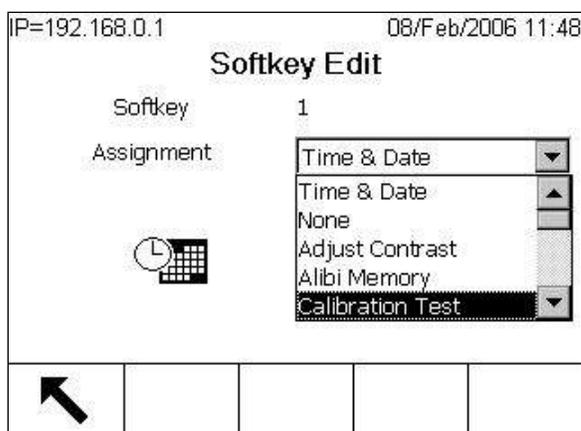

Figure 3-106: Softkey Edit Setup Screen
**Edit** Changes the softkey in the selected position to another softkey or to none, which leaves the softkey position blank. Editing a blank position does not move the position of following softkeys. Figure 3-106 shows the Softkey Edit screen with the Assignment dropdown list in focus.